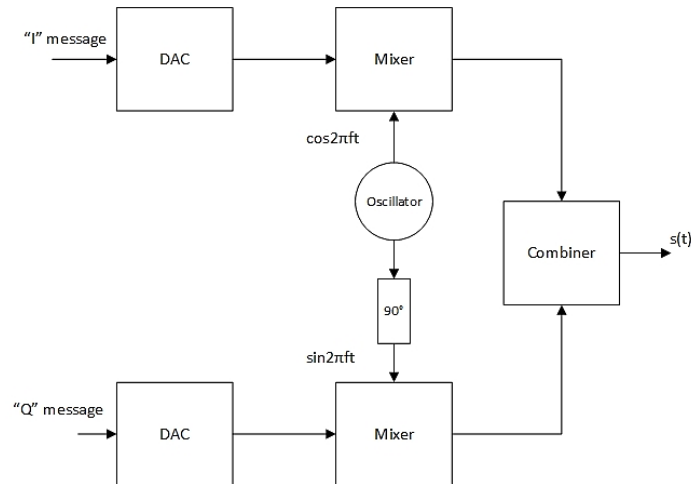

Figure 1: Architecture of Modulator at Transmitter
2. Angel Modulation in which the phase and/or frequency of the carrier signal is varied in proportion to the waveform being transmitted. Frequency Modulation (FM), Phase Modulation (PM) and Transpositional Modulation (TM) are the examples of Angel Modulation.
In this lab, the Amplitude modulation (AM) is being covered. Figure 1 shows a simple transmitter architecture in which both **In-phase** and **Quadrature** part of the message is modulated separately while a combiner is added at the end. In this architecture, the mixers are actually simple multipliers and the combiner is an adder.